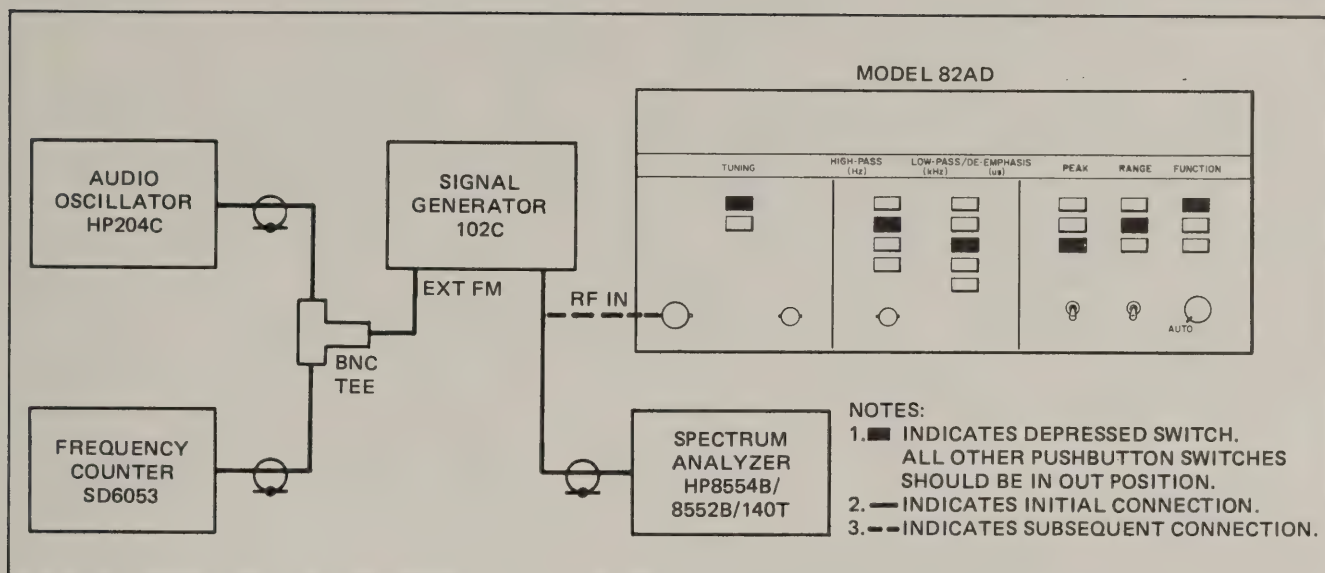

Figure 2-9 Deviation Accuracy Check, Test Setup
a. Connect the Model 82AD and test equipment as shown in Figure 2-9.
b. Depress the Model 82AD switches indicated in Figure 2-9. Set the LEVEL control to the AUTO position.